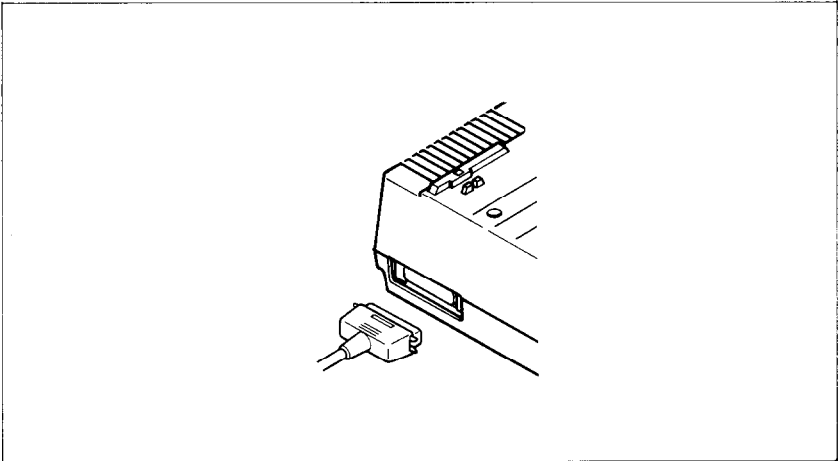

Figure 2-10. This is how you connect the cable.
2. Connect one end of the interface cable to the connector socket at the right rear of the printer as shown in Figure 2-10.